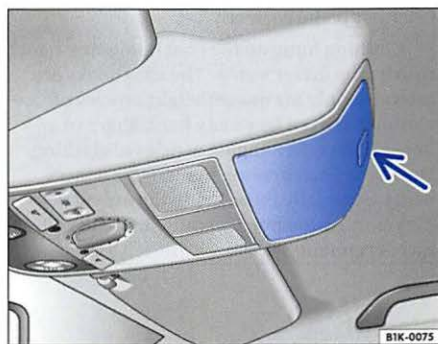

Fig. 62 Case for eyeglasses in roof
- Press the release button ⇒ fig. 62 -arrow- to open. The cover opens automatically.